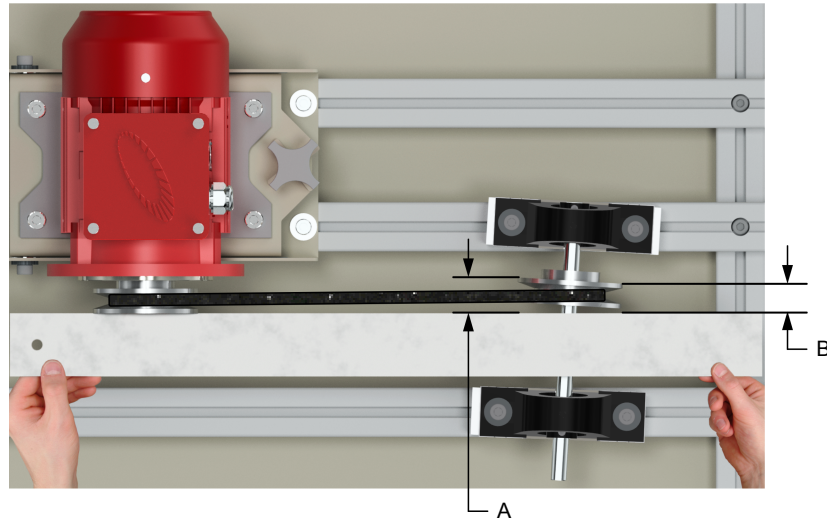

Figure 16. Horizontal angular alignment.
22. Adjust the position of the pillow blocks as shown in Figure 16 until the distances A and B are the same.